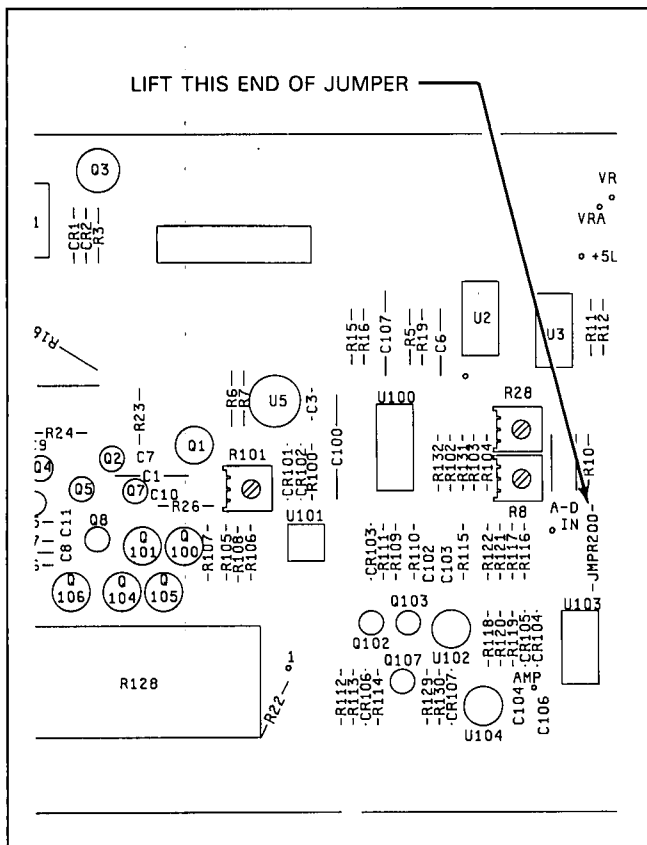

Figure 8-C-1. Jumper Jmpr200 Lifted
f. If the reading on the test voltmeter is an overload, floating, constant zero, or noisy reading, unsolder and lift one end of jumper Jmpr200. Lift the end of the jumper that is toward the top of the printed circuit board, as shown in Figure 8-C-1. The A/D Converter should now be disconnected from the input amplifier.